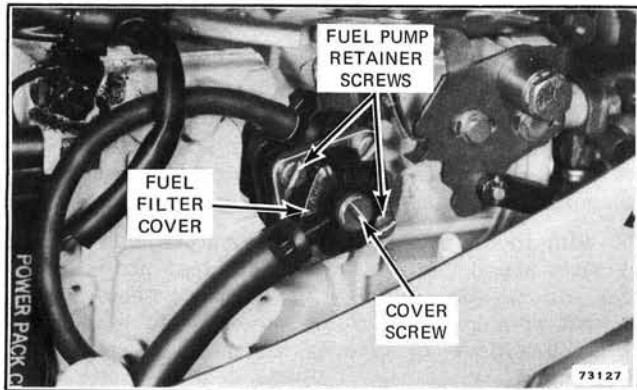

Figure 3-24. Fuel Pump and Filter
b. To remove fuel pump, remove two screws attaching pump and filter assembly to power head, and remove pump and filter assembly. See Figure 3-24.
b. Inspect the filter for accumulation of sediment by removing the filter cap screw and the filter cap. See Figures 3-24 and 3-25.